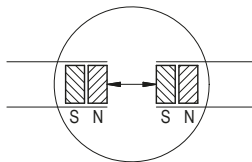

Fig. 11: Determination of the pole position. Joining the magnetic strip
- Check polarity before joining the two parts. Both ends must attract each other (if necessary, use compass needle). In case both ends have the same polarity, shorten one end by a half pole division (fig. 11).